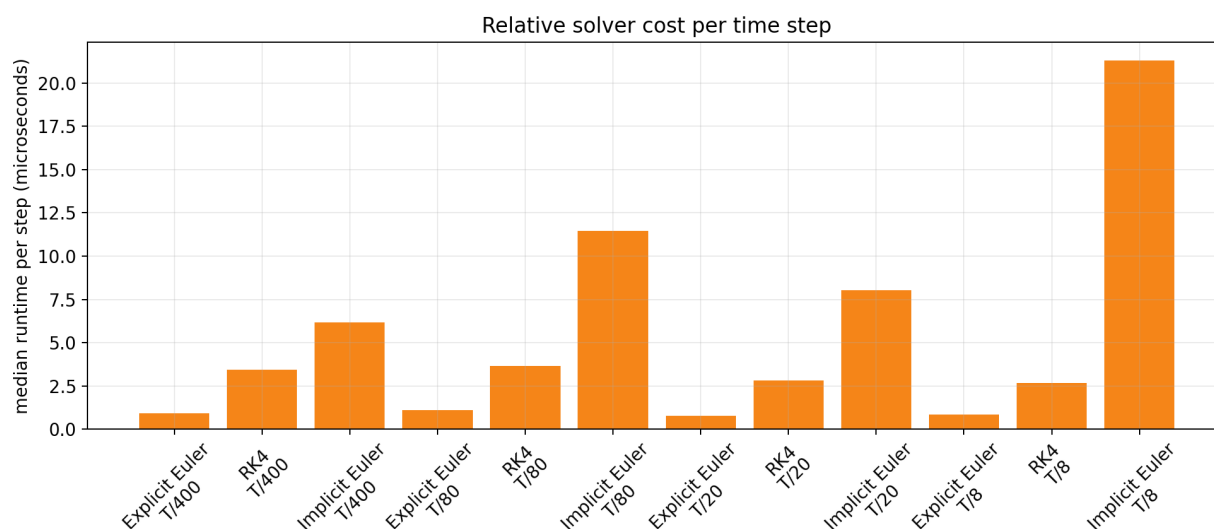

Figure 4: Median runtime per step over repeated solver calls.
Figure 4 shows median runtime per time step. The y-axis is measured in microseconds per step. This normalizes the cost so that methods with different numbers of total steps can be compared fairly.
6.14 Presentation explanation for Figure 4